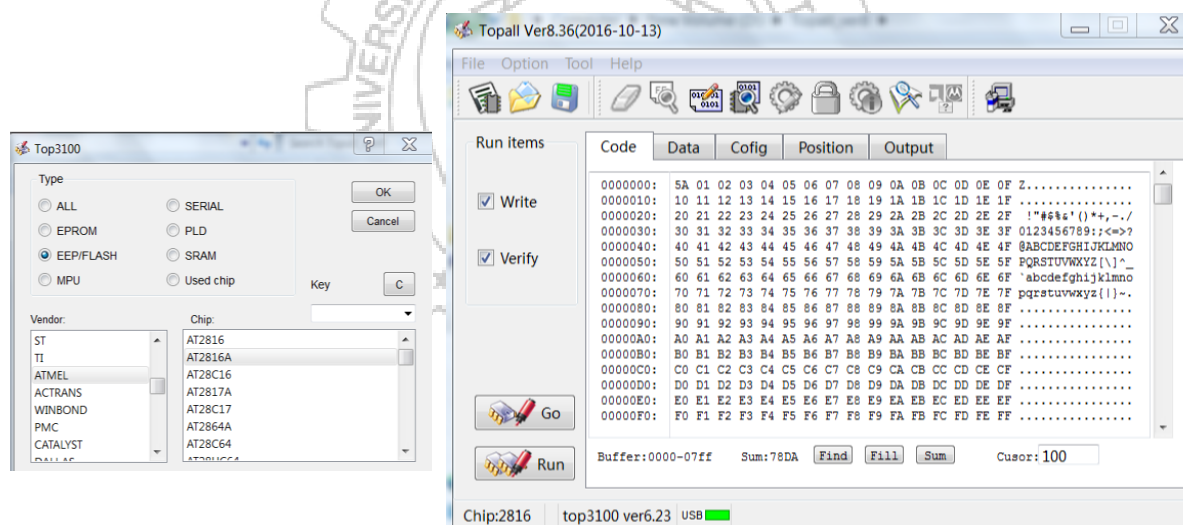

Figure 13.3: Writing to Memory Chip
- Now mention **IC number** (e.g. AT2816) or select the particular vendor (e.g. ATMEL) from the list and then look for IC number, you are using then press **Ok**. (See figure 13.3)